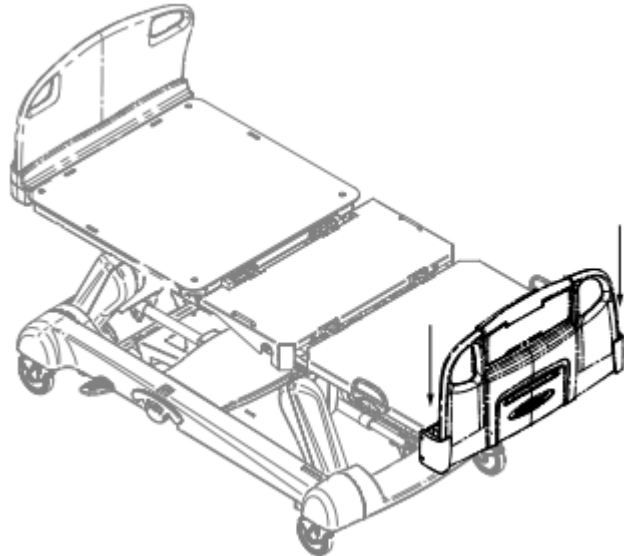

Figure 2
2. Replace the footboard by lowering the footboard onto the footboard connector. Make sure that the footboard properly fits onto the footboard connector on the foot end of the litter (Figure 2).